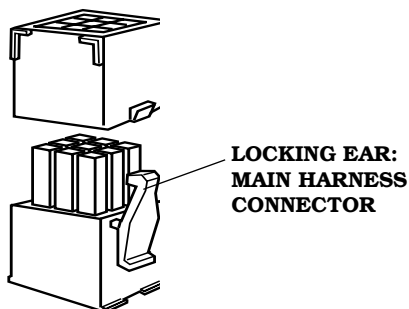

FIGURE 18. LOCKING EAR DETAIL
1. Squeeze the locking ear on the connector. See figure 18.
When inserting a connector into its mating plug receptacle, make certain that the locking ears (see figure 18, page 18, for example of locking ears) “click” into place.